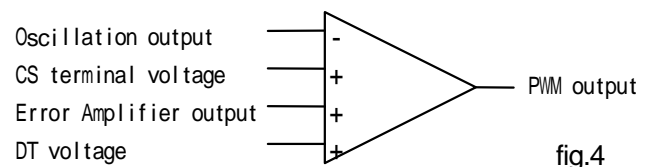
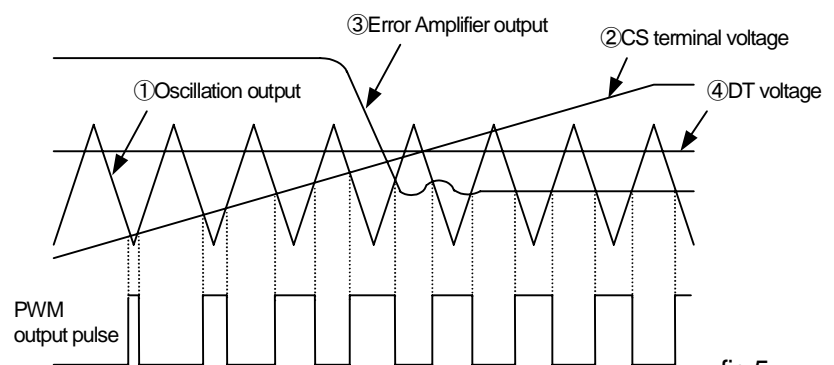

fig.4
fig.5
(4) PWM comparator
The PWM comparator has 4 input terminals. (Fig. 4) The oscillator output ① is compared with the CS terminal voltage ②, and the error amplifier voltage ③, then, the lower voltage between ② and ③ is preferred. While the preferred voltage is lower than the oscillator output, the PWM comparator output is LOW. While the preferred voltage is higher than the oscillator output, the PWM comparator output is HIGH (Fig. 5). When the IC starts, the capacitor connected to the
CS terminal is charged through the resistor connected to the power supply, and then the output pulses begin to widen gradually as the operation of soft start. In steady operation, the pulse width is determined based on the voltage of the error amplifier^③, and then the output voltage is stabilized. The Dead Time control voltage (④DT voltage) of FA7700 and FA7701 has different characteristics to adjust the ICs to various types of power supply circuits being controlled and also to reduce external discrete components as many as possible. FA7700 is developed for fly-back circuits, and boost circuits, and the DT voltage is set in the IC so that the maximum output duty cycle is fixed to 80%(min.). (Maximum output duty cycle changes according to operation frequencies.— See P10 “Maximum output duty vs. temperature”.) It prevents magnetic saturation of the transformer or the like when a short-circuit in the output circuit occurs. FA7701 is developed for buck circuits, and it is designed for the maximum output duty cycle of 100%. The timing chart of PWM comparatr is described in Fig. 5.
(5) Soft start function